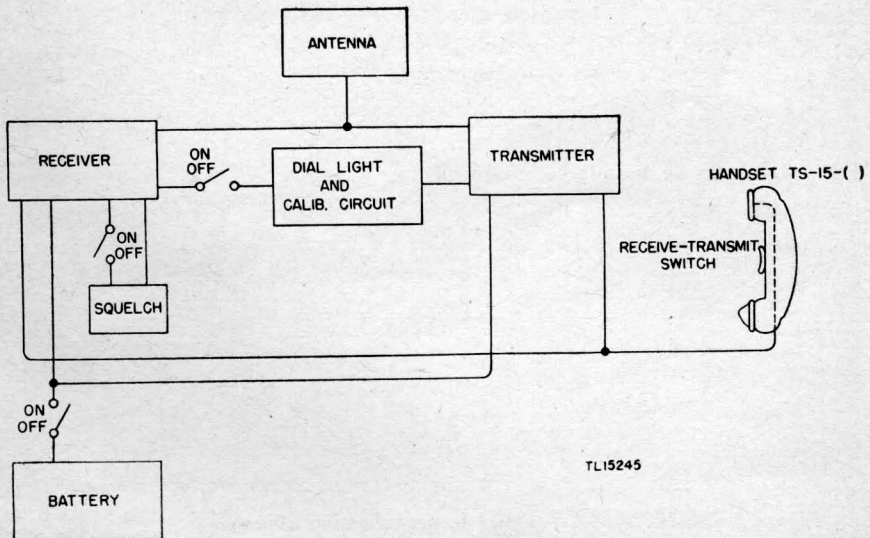

Figure 1. Radio Set SCR-300-A—simplified block diagram.
a. GENERAL. The receiver of Radio Receiver and Transmitter BC-1000-A, main component of Radio Set SCR-300-A, uses a double super-heterodyne circuit. The transmitter is frequency modulated. The transmitter and receiver frequencies are the same for each channel and are varied by a single, ganged TUNING control. A simple block diagram of Radio Set SCR-300-A is shown in figure 1. The functions of certain supplementary circuits are described below.